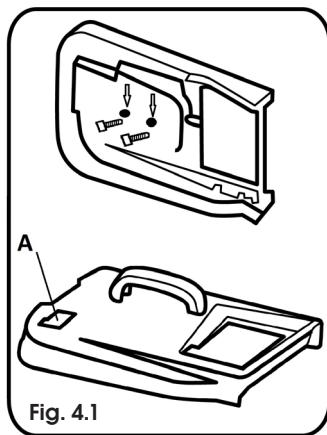

Fig. 4.1
- ✿ Attach the handle to the top part of the grass catcher using the included screws. Figure 4.1
**⚠ ATTENTION:** The grass catcher is equipped with a full indicator. Figure 4.1, point A. If the flap is lifted, the grass catcher is not full. Otherwise, it is necessary to tip out the grass catcher.